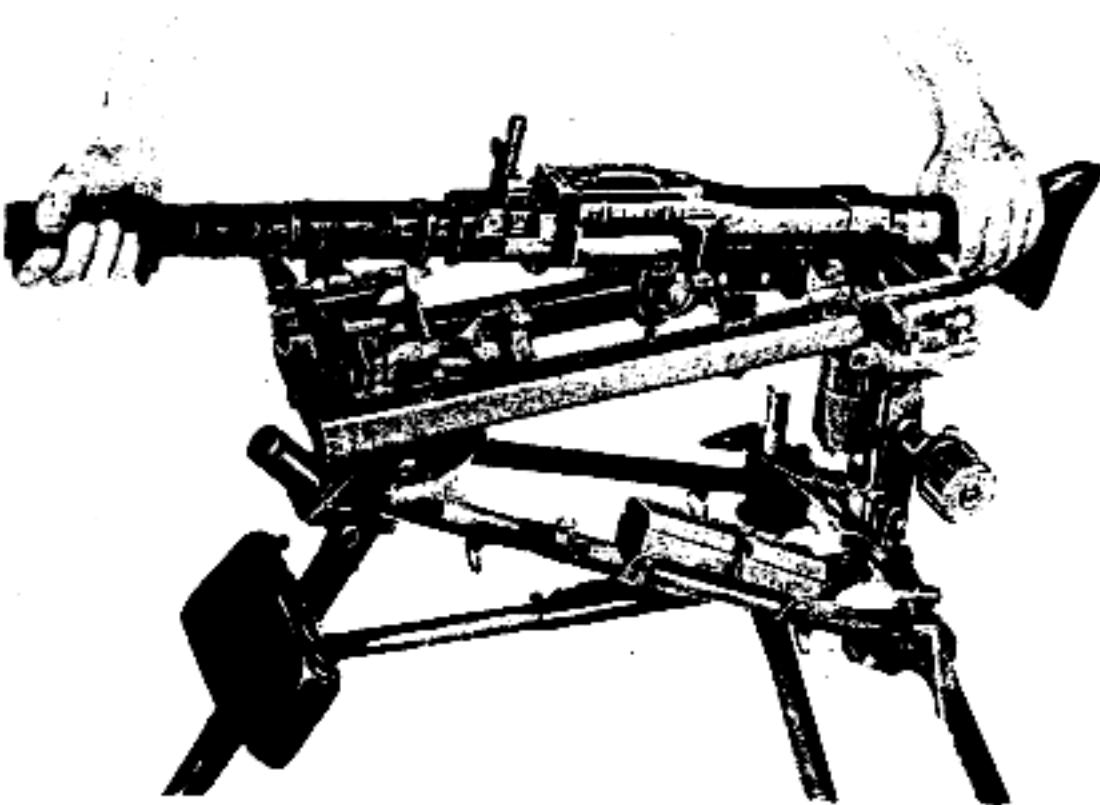

Figure 10 — Mounting the Machine Gun on the Tripod Mount
(2) Place the machine gun (muzzle end up) on the mount, so that the projections on each side of the gun fit into the claws on the cradle (fig. 10). Lower the front part of the gun on the cradle and secure it by means of the hinge clamp.